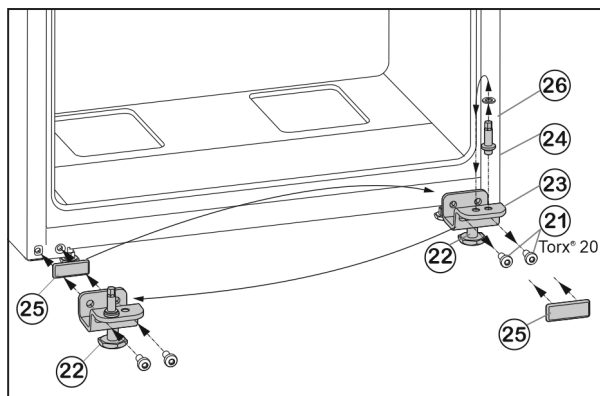

Fig. 7
- Unscrew fastening screws Fig. 7 (21).
- Remove the lower bearing block Fig. 7 (23), complete with bearing bolt Fig. 7 (24), washer Fig. 7 (26) and adjustable foot Fig. 7 (22).
- Unscrew the bearing bolt Fig. 7 (24), complete with washer Fig. 7 (26), re-locate it into the mounting hole on the opposite side of the bearing block and tighten again.
- Carefully remove the cover plate Fig. 7 (25) and re-locate it to the other side.
- Fasten the lower bearing block Fig. 7 (23), complete with bearing bolt Fig. 7 (24), washer Fig. 7 (26) and adjustable foot Fig. 7 (22) to the new hinge side, with the help of a cordless screwdriver if necessary, and **tighten (with 4 Nm)** once again.
- Lower the bottom door onto the bearing bolt Fig. 7 (24).
- Unscrew the adjustable foot Fig. 7 (22) on the lower bearing block Fig. 7 (23) until it reaches the floor.